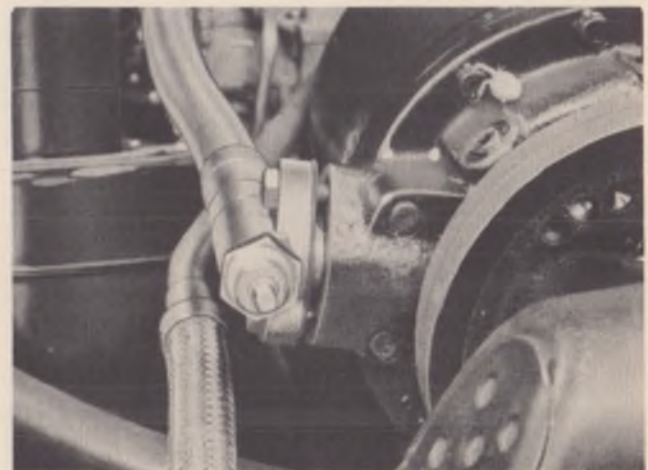

Fig. 23
2. Loosen the bolts on the hand shutoff valves on the compressor about $\frac{5}{16}$ ". Then tap the valve to free it from the "O" ring and flange opening. The valve should come back firmly against the bottom of the bolt heads. See Figure 23. A momentary release of